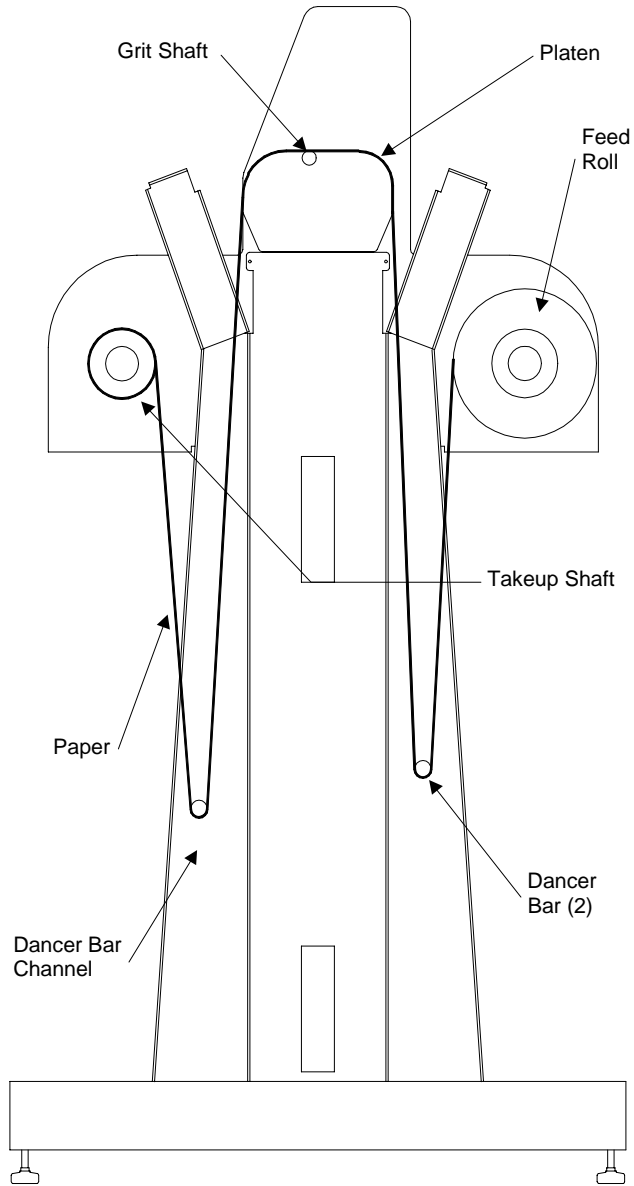

Figure 18. The Paper Path
25. Check the paper path against Figure 18 for proper installation.